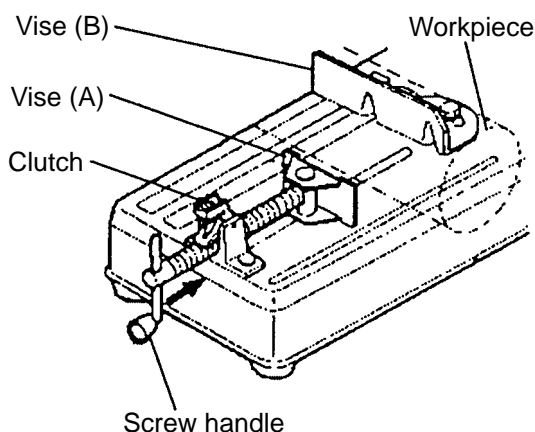

Fig. 1 High-speed feeding
Vise (A) can be fed quickly by pushing or pulling the screw handle with the clutch of the one-touch vise disengaged. (Fig. 1)